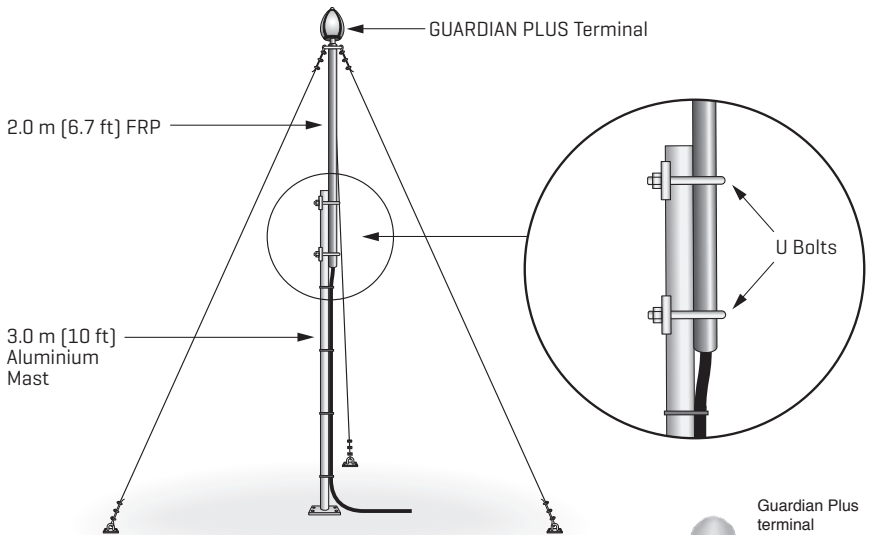

Figure 32.
- (i) The U-Bolt set uses two stainless steel U-Bolts to clamp the two masts together (Figure 32).